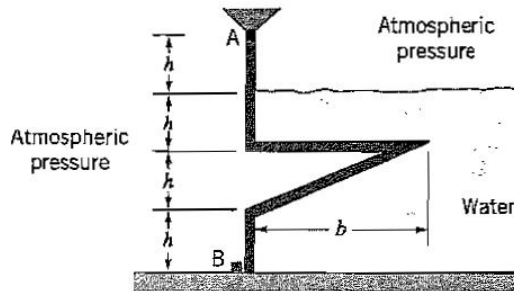

Figure P2.95.
2.95 The gate shown in Figure P2.95 has a constant width W . The gate has a frictionless hinge at point A and it is held against a stop at point B. Neglecting the weight of the gate, find the magnitude of the resultant force exerted on the gate by the water, and the dimension b for which there is no force on the gate at point B.